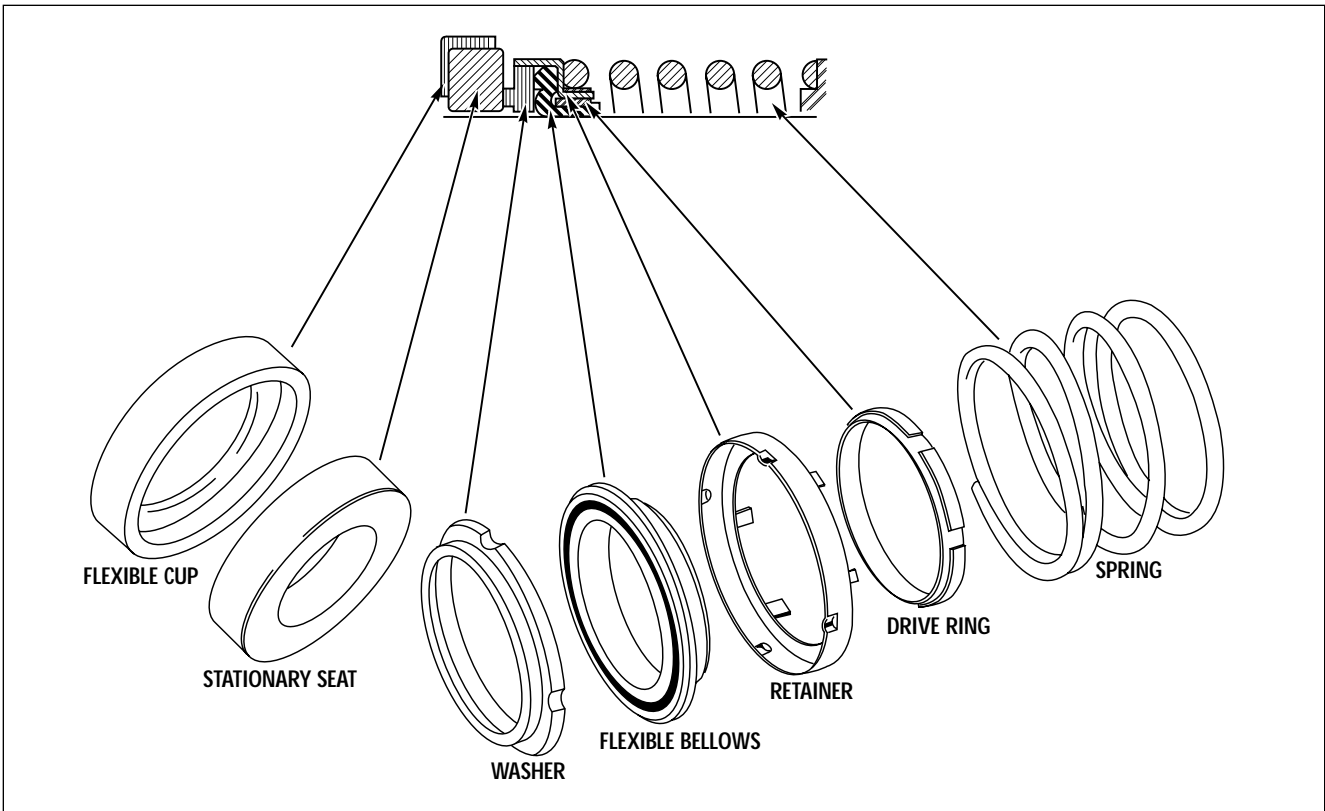

Figure 1. Mechanical Seal
The mechanical seal (see Figure 1) is a precision product and must be treated as such. During removal, great care must be taken to avoid dropping any part of the seal. Take particular care not to scratch the lapped faces on the washer or the sealing seat. If any wear of the seal faces is noted, it is recommended to replace with a new seal during reassembly.
1. Press grease seals (51) into frame (57). (344A)
2. Press bearings (53 and 54) onto shaft (55). Snap retainer ring (52) into place. (344A)
3. Slide shaft (55) and bearings (53 and 54) into frame (57) until retainer ring on bearing (54) comes in contact with frame (57). Place "O" ring (oil lubed only) (50) in place. (344A)
4. Fasten bearing cap (49) in position with capscrews (48). Insert grease seals (51A) and position slingers (47 and 47A) on the shaft. (344A)
5. The mechanical seal (27) (see Figure 1) cannot be installed as an assembly. It is necessary to have the seal seat properly in place in bracket (35) before the balance of parts can be added.
- Secure support (41) to bracket (35) with capscrews (39) and washers (40). Frame sizes 143 thru 184-JM Model 341A only.
- If nameplate (34) was removed, install and attach with screws (33).
- Wipe the sealing faces of the seat and seal washer clean. Replace pin (61) in sleeve if it was removed during disassembly. Apply a film of liquid dishwashing detergent to the washer and bellows of the seal and slide the remaining seal parts onto the sleeve making sure the washer is seated against the seal seat. Check the proper sequence of assembly as indicated in Figure 1. The shaft sleeve with the seal rotating assembly on it may now be replaced onto the motor shaft. Spring tension will probably prevent the sleeve from remaining in position axially until the impeller is locked against it.
- Press wearing ring(s) (7 and 16) in casing (6) and bracket (35). Rings should not be hammered into place. Use a press, or clamp the parts in a bench vise, using wooden blocks to protect the rings. It may be necessary to pin or dowel the rings after assembly if the insert or casing has had rings replaced before, since each reassembly can stretch or tear metal and thereby loosen the fits. If the facilities are available, it is good practice to take a very light finish cut or to ream the inside diameter of the casing rings after pressing to restore roundness. When rings are pressed, they may get squeezed out of shape.
- Coat the mating surfaces of impeller wear ring(s) (optional - 14 and 15) and impeller (11) with Loctite sealant grade 271. Replace wear rings, using the same care as for the case wear ring(s). If the rings are to be trued on a lathe, do not clamp the impeller so tightly that it is permanently distorted.
- Carefully replace gasket (10) on motor end of impeller. Assemble key (12) and impeller (11) to motor shaft. Secure impeller with gasket (9B), washer (9A), capscrew seal (9C) and impeller screw (9).
- Install the two pipe plugs (4) in the pump casing. Position the gasket (8) and casing (6) against the motor bracket and secure with screws (5). On Model 342A pumps position gasket (72) and set pump assembly in place. Tighten pump to base (73) with capscrews (39).
- Replace all relief, cooling, flushings, or drain lines from the pump including compression connections (1 and 2) and tubing (3). Replace all grease fittings pipe plugs, tube vents and oiler assembly for oil lubricated units. Connect discharge piping and suction piping, if required. Make sure to install gaskets on the flanged connections. On Model 342A pumps replace plugs (74 and 75) in base elbow (73).